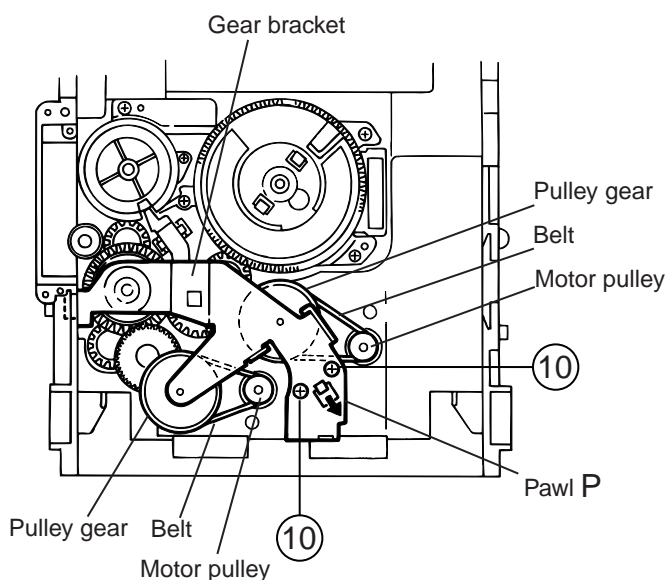

Fig.18
4. While turning the cam gear L, align the pawl "O" position of the select lever to the notch position(Fig.18) on the cam gear L.
5. Remove the four screws 9 retaining the cam unit(cam gear L and cams R1/R2 assembly)(See Fig.18).
■Removing the actuator motor and belt (See Fig.18~21)